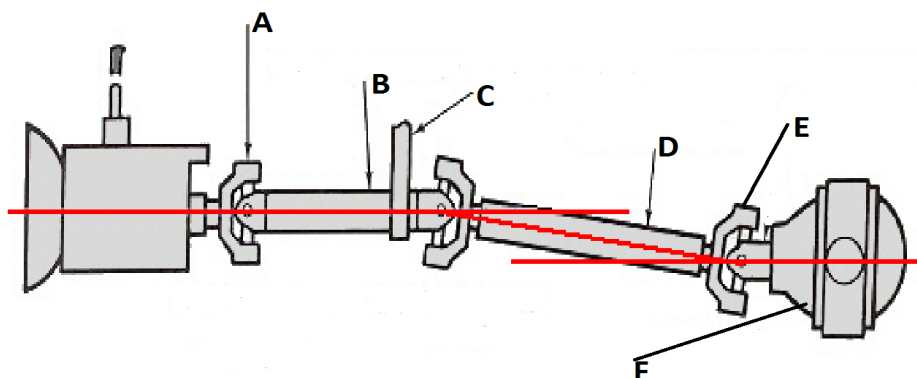

FIGURE 4
- 5.1 Identify the components of a two-piece Hotchkiss drive assembly in FIGURE 4 below, by writing the answer next to the letter (A–F) in the ANSWER BOOK.